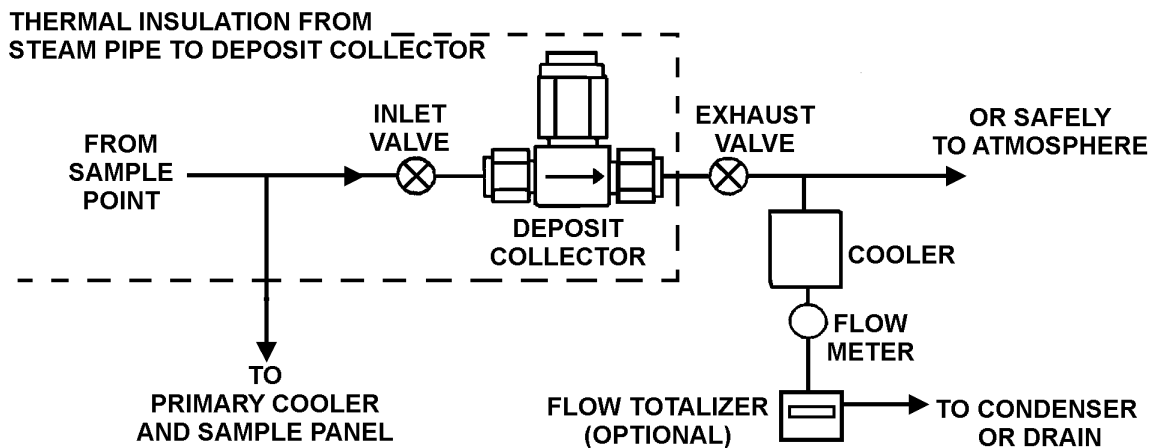

Figure 1
2. Install the Steam Turbine Deposit Collector/Simulator as shown in Figure 1. The steam can be exhausted to a condenser or safely to a drain. The assembly should be installed with the arrow on the Collector body oriented in the direction of steam flow. A flow meter to measure the total amount of steam passed through the Deposit Collector is desirable.